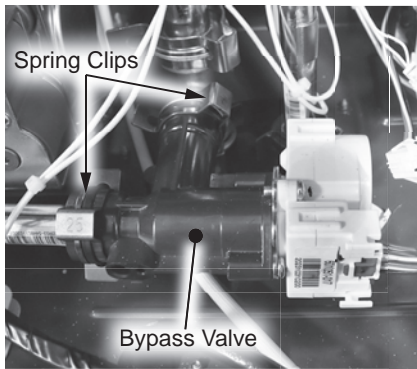

Figure 159 - Bypass valve location
17 Locate the bypass valve at the bottom front side of the water heater as shown in Figure 159. Disconnect the wiring harness from the valve.
18 Remove the two (2) spring clips (size 25) securing the bypass valve to the piping system. Remove the bypass valve from pipe connections. Place components aside in a safe place for reinstallation. See Figure 159.